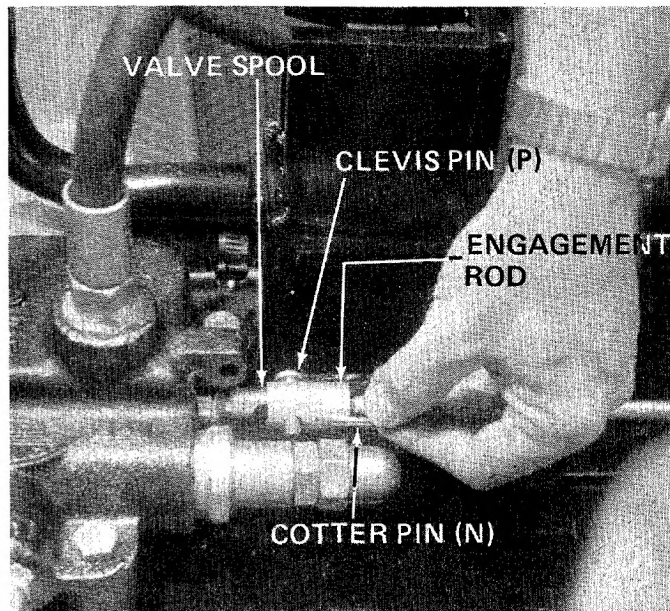

FIGURE 11
11. Place end of engagement rod on valve spool and secure with clevis pin (P) and cotter pin (N). See figure 11.